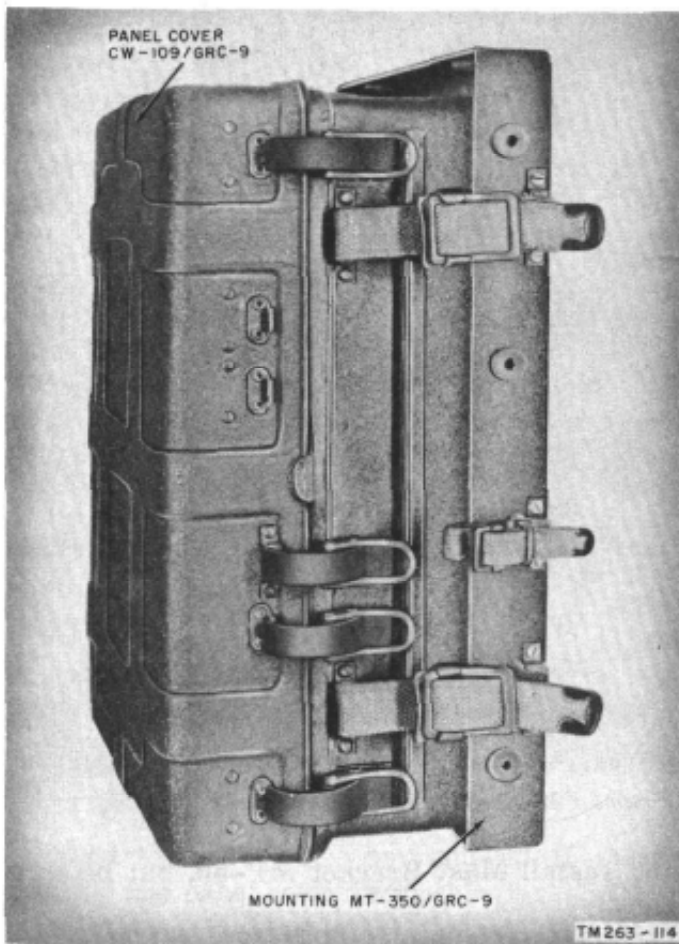

Figure 38. Receiver-transmitter mounted for vehicular transportation or storage.
- (7) Replace the panel cover if operation is not desired. For storage, strap the receiver-transmitter in Mounting MT-350/GRC-9 as shown in figure 38.
e. For transportation or storage, strap the receiver-transmitter in Mounting MT-350/GRC-9 with Panel Cover CW-109/GRC-9 secured over the face with the latches (fig. 38).